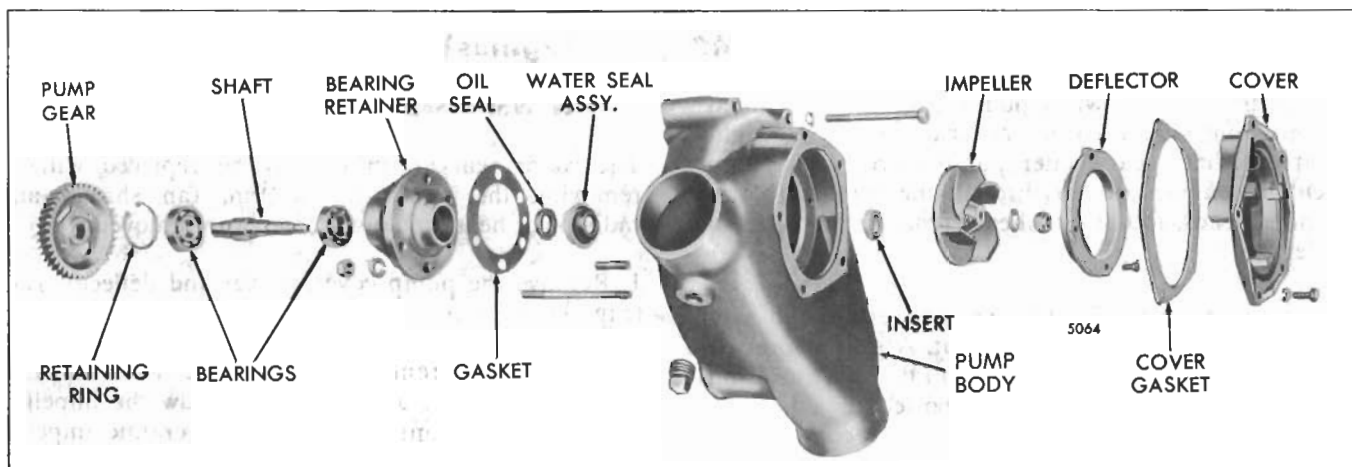

Fig. 11 - Water Pump Details and Relative Location of Parts
1. Remove the pump cover, gasket and deflector ring (Fig. 11).